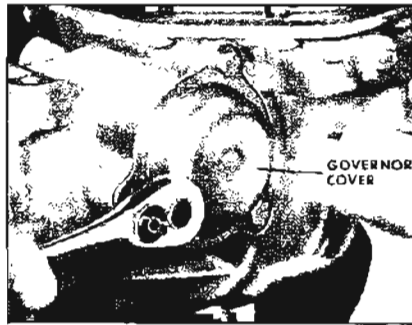

Figure 5-361
2. Install governor gasket and cover to case. Torque bolts to 8-12 ft. lbs, See Figure 5-361.